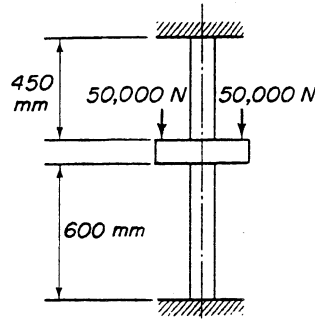

Figure 1-50 Problem 10.
10. The bars in Fig. 1-50 are fitted top and bottom to immovable supports. The bars are of the same material and have the same cross section. Find the force in each bar. *Ans.* Top, 57,140 N; bottom, 42,860 N.